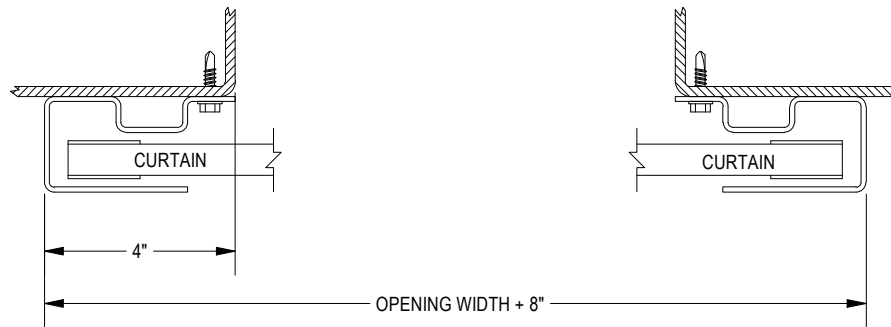

FIGURE 8: STEEL JAMBS
- ▶ **STEEL JAMBS:** $\frac{1}{4}$ " - 14 X 1". TEKS SCREW. **SEE PAGE 9 FIGURE 8.**